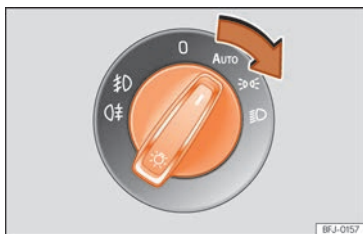

Fig. 89 Dash panel: lights control.
- Turn the switch to the required position » Fig. 89.